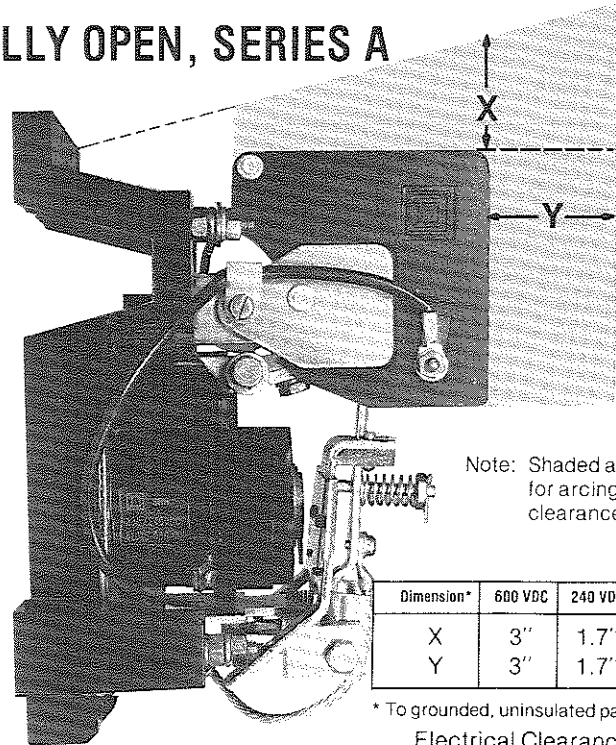
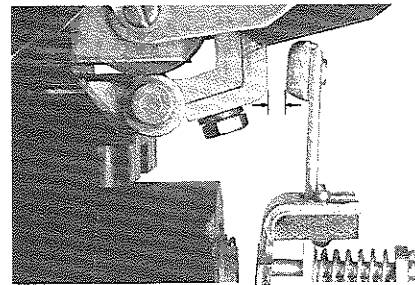

Figure 1
Figure 4
2. Check nameplate data for correct equipment. Check that the contactor operating coil (32) is the correct voltage.
4. Mount the contactor vertically on a rigid support and fasten down tightly using a plain washer against the contactor base. Provide the clearance shown in Fig. 1 above the top of the contactor and in front of the arc chute for pivoting or removal of the arc chute and for electrical clearances.
2. Hold the contact arm of the left contactor fully closed and push closed the contact arm of right contactor until stopped by the mechanical interlock. With new contact tips, check that there is a gap of at least 3/16" but not more than 1/4" between the contact tips (Fig. 4).
1. Contact arm gap is factory adjusted. Do not change the setting of the adjusting screw (27).
- Should the setting be inadvertently changed, readjust the contact arm gap by turning the adjusting screw (27) located on the bottom of the contact arm (Fig. 1) until a contact tip gap of 5/16" is achieved (Fig. 4).
- Retighten the locking nut (28) which holds the adjusting screw.